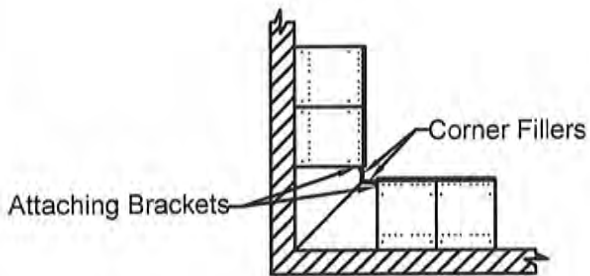

Figure 6.3 Corner Filler
- 6.9 Position the adjacent lockers at the corner so that the corner filler brackets align with the locker side panel. Level the lockers and attach the corner filler to the locker, see Figure 6.3. Repeat step 6.6 to anchor these lockers to the wall.